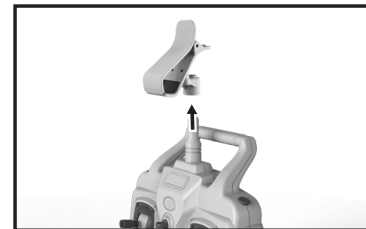

Figure 3
3. Hold phone attaching clamp and pull out forcibly to disassemble phone attaching clamp. (Figure 3)